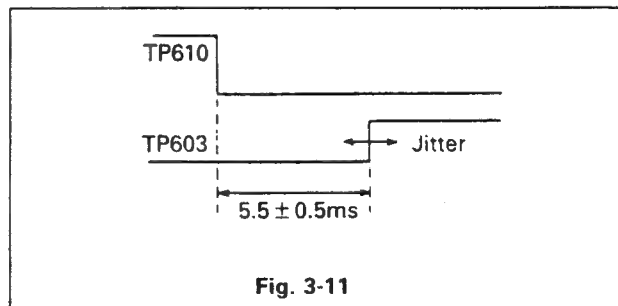

Fig. 3-11
- (1) Connect the oscilloscope's CH1 to the test pin TP610 on the S/S circuit board and the CH2 to the test pin TP603 on the same circuit board.
- (2) Run the alignment tape (MH-2).
- (3) Adjust VR603 until rising edge of V sync pulse matches to rising edge of the RF switching pulse as shown in Figure 3-11.